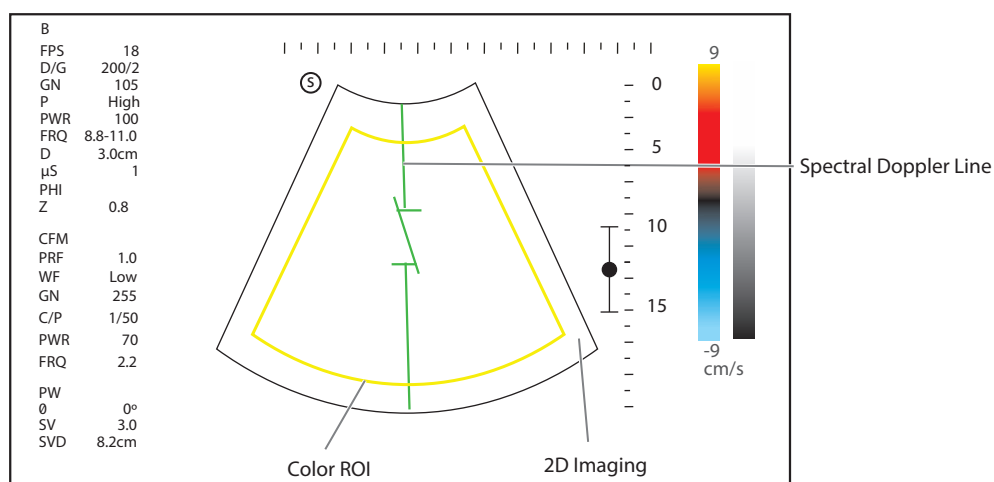

Figure 6-25 Pre-activated B+CFM/PDI/SR Flow/TDI+PW-Mode 1 Imaging Screen
- Press the **PW** key on the control panel to enter the pre-activated B+CFM/PDI/SR Flow/TDI+PW mode 1. The basic screen is shown in Figure 6-25.